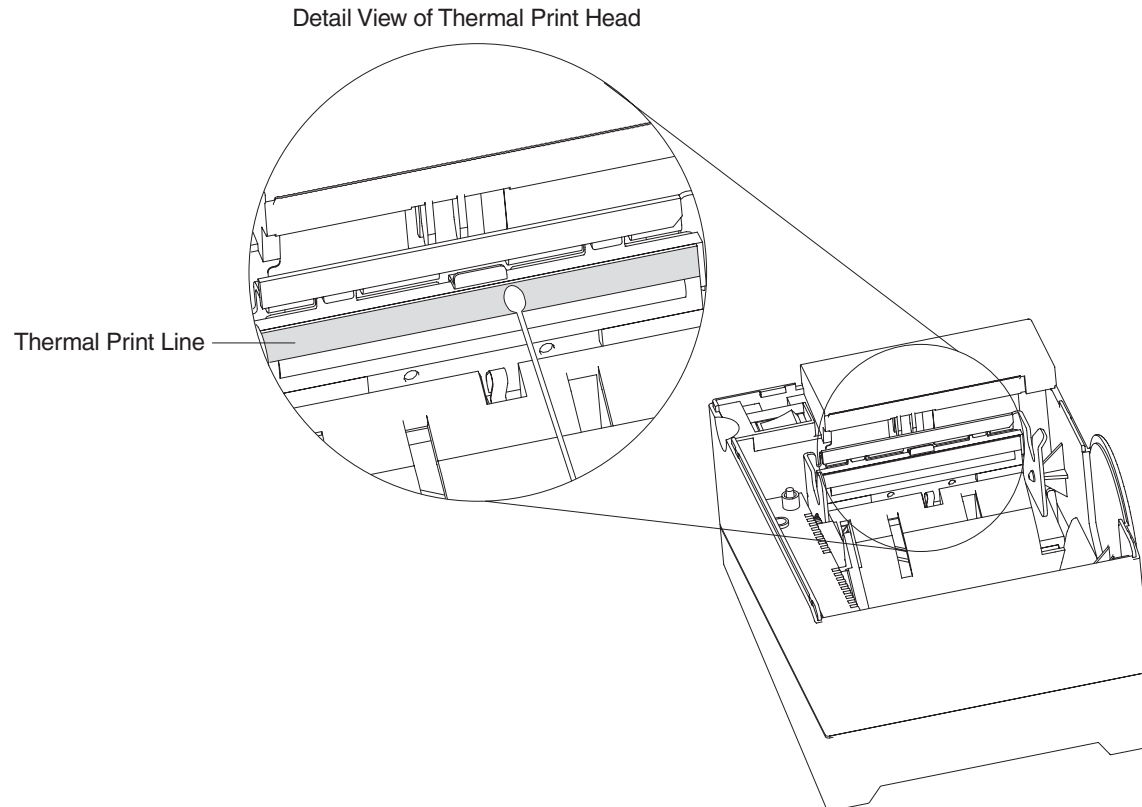

Figure 38. Printhead and Print Line Area (Models TF6 and TM6)
2. Using a cotton swab soaked in isopropyl alcohol, gently wipe the printhead several times on its print line and on the surrounding area. See Figure 38.